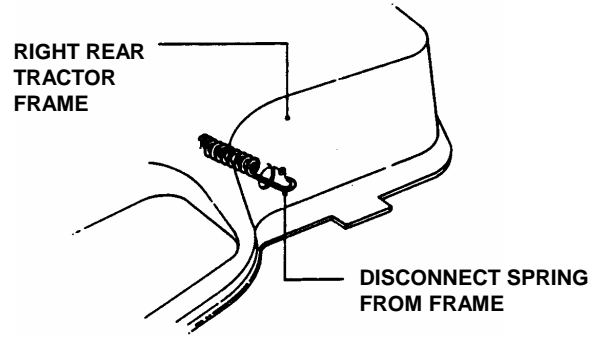

**FIGURE 4.22**
11. Slide sector plates off of rear deck hanger brackets. See Figure 4.22.